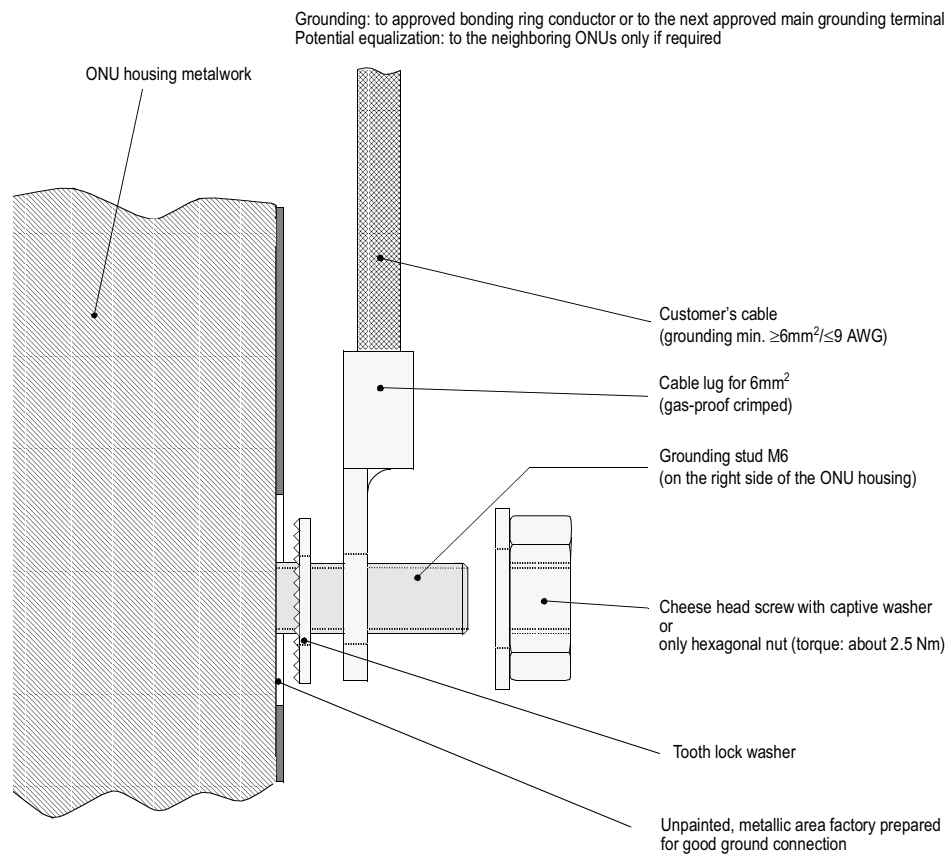

Figure 4-5 ONU Grounding
The ONU grounding connection is illustrated Figure 4-5. Use the following procedure to ground the ONU:
- Step 6 Fasten the M6 cable lug at the grounding stud using the external toothed lock washer and the M6 hexagonal nut with torque of approximately 2.5 Nm (see Figure 4-5).